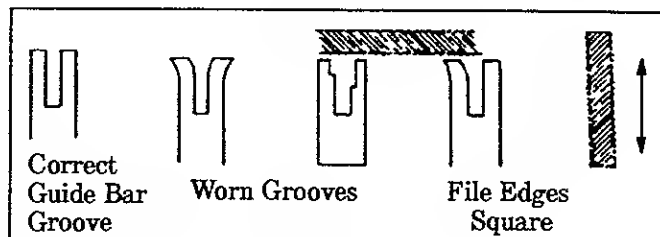

Figure 32
- the guide bar is bent or cracked. See Figure 32.
- d. Remove humps by filing the side edges of the guide bar grooves square with a flat file. Figure 32.
- e. Restore square edges to an uneven rail top by filing with a flat file. Figure 32.